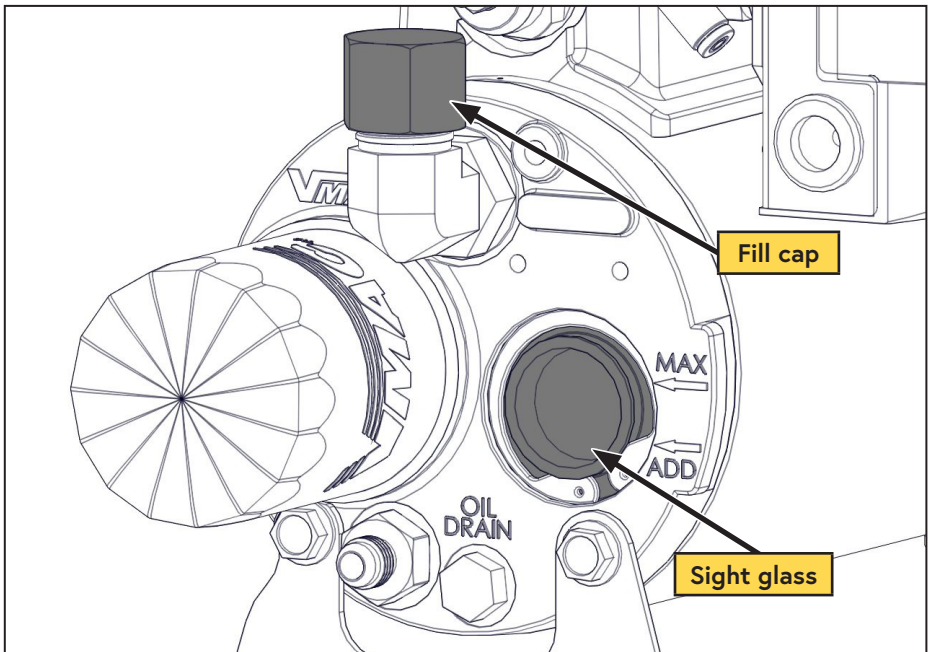

Figure 34 — Filling the WHASP Tank
- Remove the fill cap on the WHASP Tank (above the sight glass) (Figure 34).
- Using a funnel, pour oil into the tank until the oil level in the sight glass reaches the "MAX" line. **The system capacity is 4 L** (Figure 34).